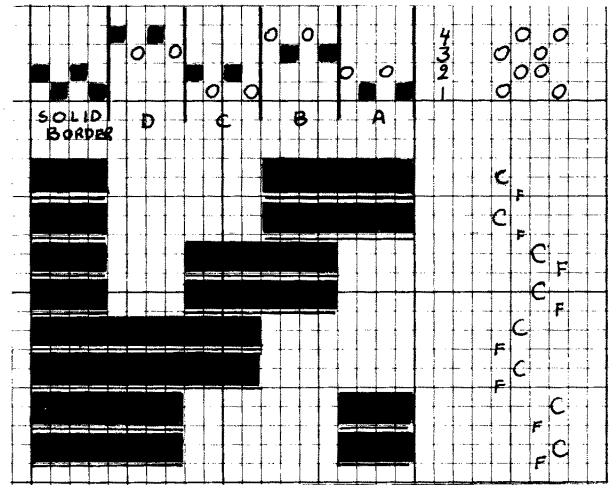

Fig. 1
- The threading for Mattor is: Block A: 1 dark, 2 light; Block B: 3 dark, 4 light; Block C: 1 light, 2 dark; Block D: 3 light, 4 dark; Solid Vertical Stripe: 1 dark, 2 dark. See Fig. 1.
- The treadlings for Mattor blocks are: Block A with B: 1-3 coarse, 2-4 fine; Block B with C: 2-3 coarse, 1-4 fine; Block C with D: 2-4 coarse, 1-3 fine; Block D with A: 1-4 coarse, 2-3 fine. See Fig. 1.